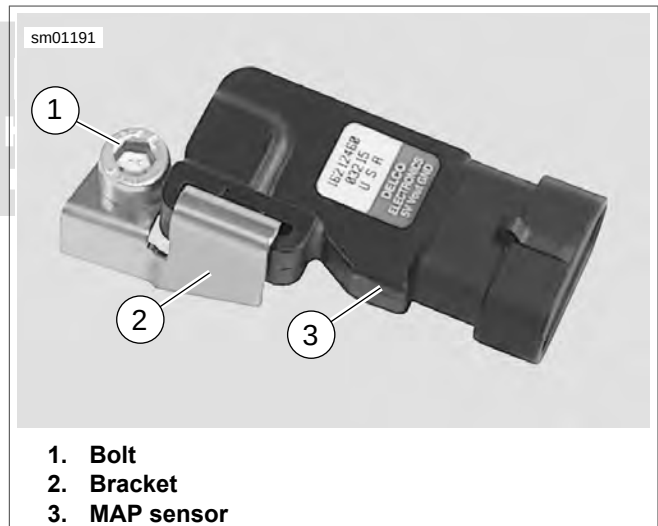

Figure 4-14. MAP Sensor
3. See Figure 4-14. Install bracket (2) over MAP sensor (3).